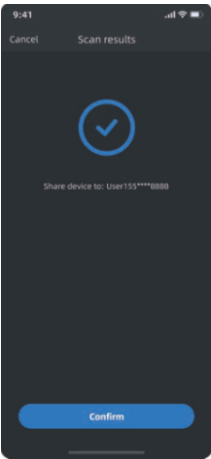

Figure3
- 3)Figure 3: When there is only one device under your name, click "**Confirm**" to complete the sharing;If it fails, you can follow the prompts to share again.